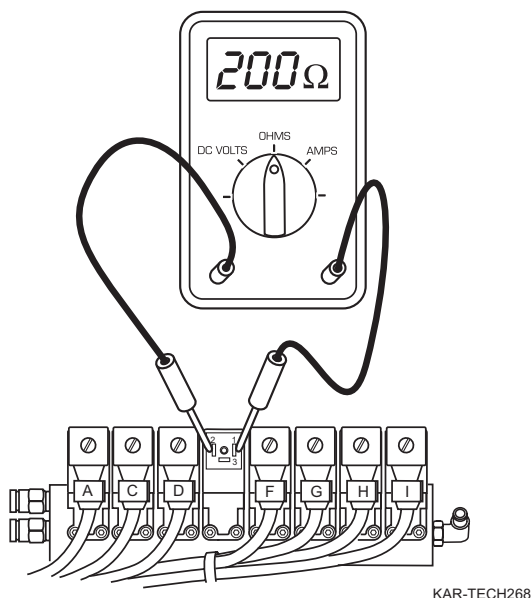

Figure 31
2. Connect ohmmeter to solenoid pins “1” and “2” (Figure 31). Ohmmeter must indicate between 100 and 300 ohms.